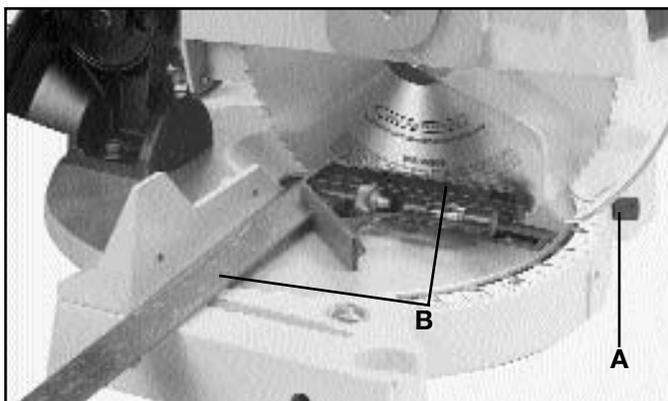

Fig. 19
2. Place the cutting arm in the 90 degree straight cut-off position, as shown in Fig. 19, and tighten the table lock knob (A).
3. Lower the saw blade, as shown in Fig. 19.
4. Using a square (B) Fig. 19, place one end of the square against the fence and the other end against the blade, as shown.